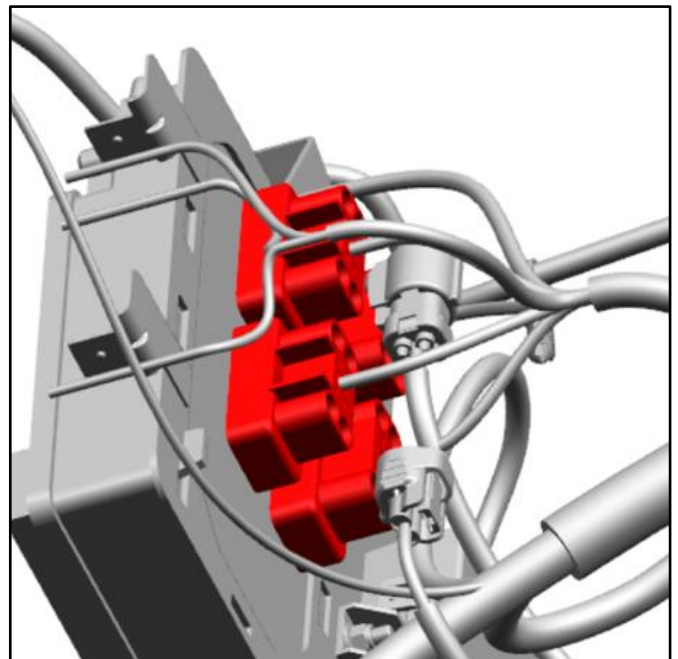

Figure 9
17. Disconnect the four electrical connectors from the fuse box. (Refer to Figure 9.)